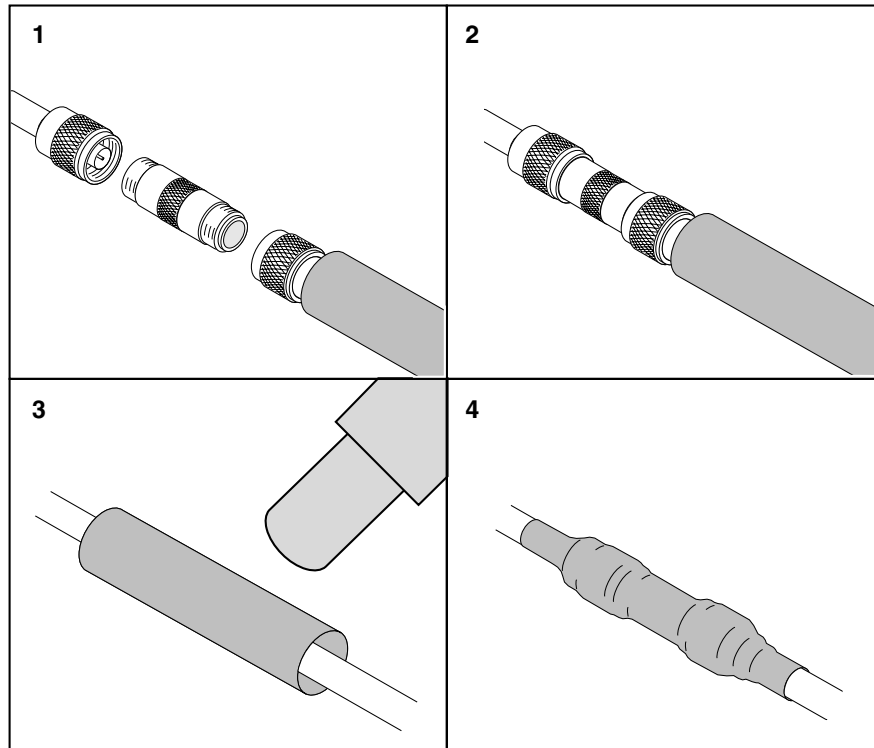

Figure 4. Applying Shrink Tubing
- h. Next, follow the installation information and weatherproof all cable connections as shown in Figure 4, step 4.
5.6. Refer to the steps below and Figure 4 to apply heat shrink tubing. The steps describe connections between two cables or between a cable and a device.
- a. Slip a piece of the supplied shrink tubing over the cable and cable connector. See Figure 4, step 1.
- b. Connect the cable to the N-to-N adapter or to the device connector. See Figure 4, step 2.
- d. Using a heat gun or similar heat source, start heating the shrink tubing at the end nearest the N-to-N adapter or device and work toward the cable as shown in Figure 4, step 3.
5.7. Repeat steps a through d for all cable connections. Finished connections should look similar to Figure 4, step 4.